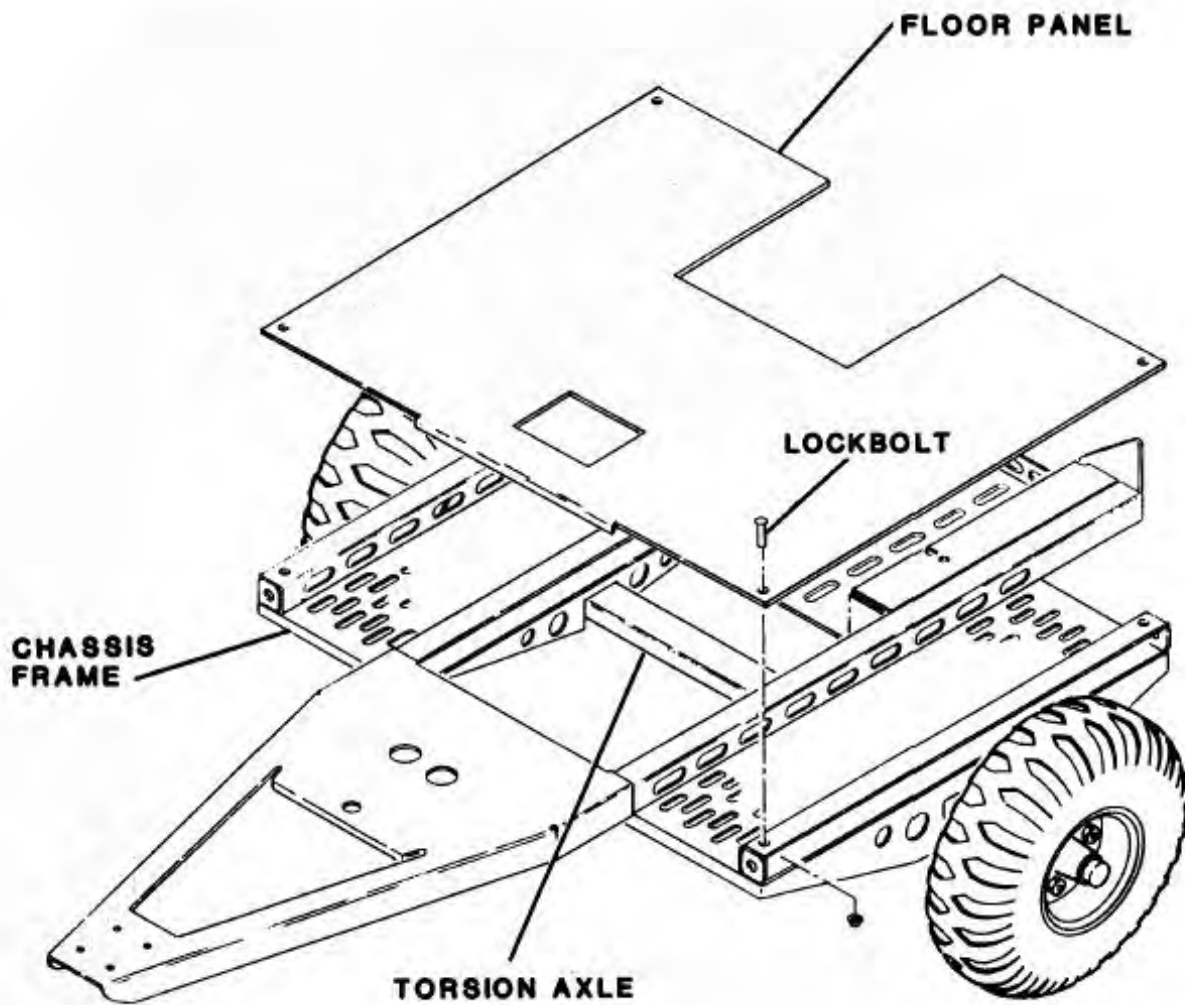
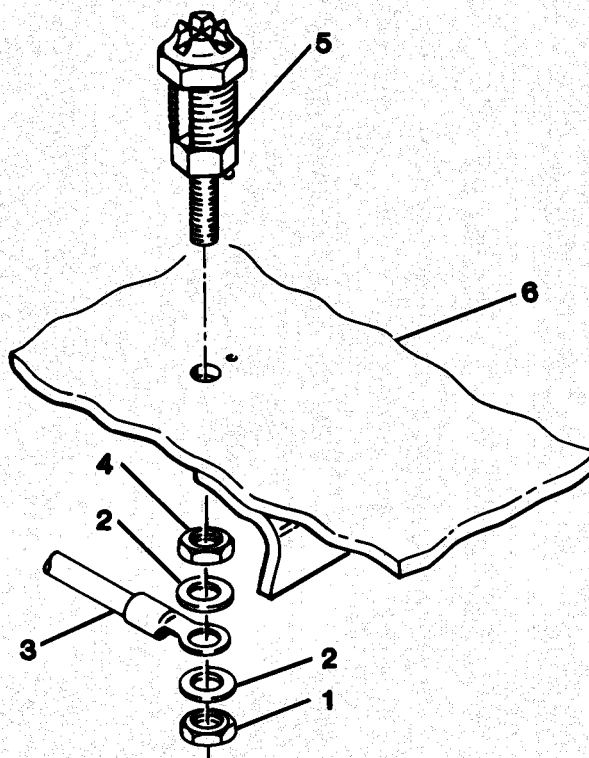

Figure 3-3. Chassis Frame Replacement
Figure 3-4. Ground Stud Replacement
(12) Loosen turnlock fasteners and remove plenum access cover.
(13) Support discharge end of exhaust nozzle. Remove self-locking nuts, washers, capscrews, and four-section nozzle gasket retainer. Pull nozzle into engine housing and remove.
(14) Remove oil cooler (paragraph 7-3a) and oil cooler supply and return lines.
(15) Remove engine fuel tank (paragraph 4-39a, TM 5-6115-612-12).
(16) Remove brake control installation (paragraph 4-90c, TM 5-6115-612-12).
(17) Ensure that all fuel/lubrication lines and electrical wiring that go through, or are secured to, the floor panel are tagged, disconnected, and secured within the upper housings or completely removed from the generator set.
(18) Refer to paragraph 2-4a for procedure to remove lockbolts. Remove all lockbolts that secure housings to floor panel and chassis frame.
(19) Lift housings off floor panel.
(20) Remove lockbolts (figure 3-3). Lift floor panel off chassis frame.
(21) Remove torsion axle (paragraph 12-2a).
(22) Remove tiedown rings (paragraph 4-14a, TM 5-6115-612-12).
(23) Remove nut (1, figure 3-4), washer (2), terminal lug (3) of ground cable, washer (2) and nut (4) to remove ground stud (5) from chassis frame (6).
(1) Install ground stud (5, figure 3-4) and secure with nut (4). Torque to 74-82 inch pounds (8.4-9.3 Nm). Install washer (2) and terminal lug (3). Secure with washers (2) and nut (1). Torque to 74-82 pounds (8.4-9.3 Nm).
(2) Install tiedown rings (paragraph 4-14b, TM 5-6115-612-12).
(3) Install torsion axle (paragraph 12-2b).
(4) Place floor panel in position and secure with lockbolts at each corner.
(5) Place housings in position on floor panel.
(6) Refer to paragraph 2-4b for procedure to install lockbolts. Secure housings and floor panel to chassis.
(7) Ensure that all fuel/lubrication lines and electrical wiring are routed to correct locations and securely fastened where required.